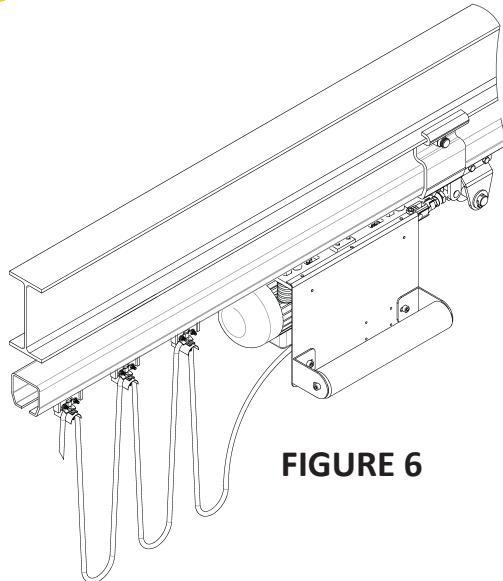

FIGURE 6
STEP 9: The power supply cable has to pass through the clamps of the cable trolleys that move inside the cross bridge track and long travel track. See Figure 6.